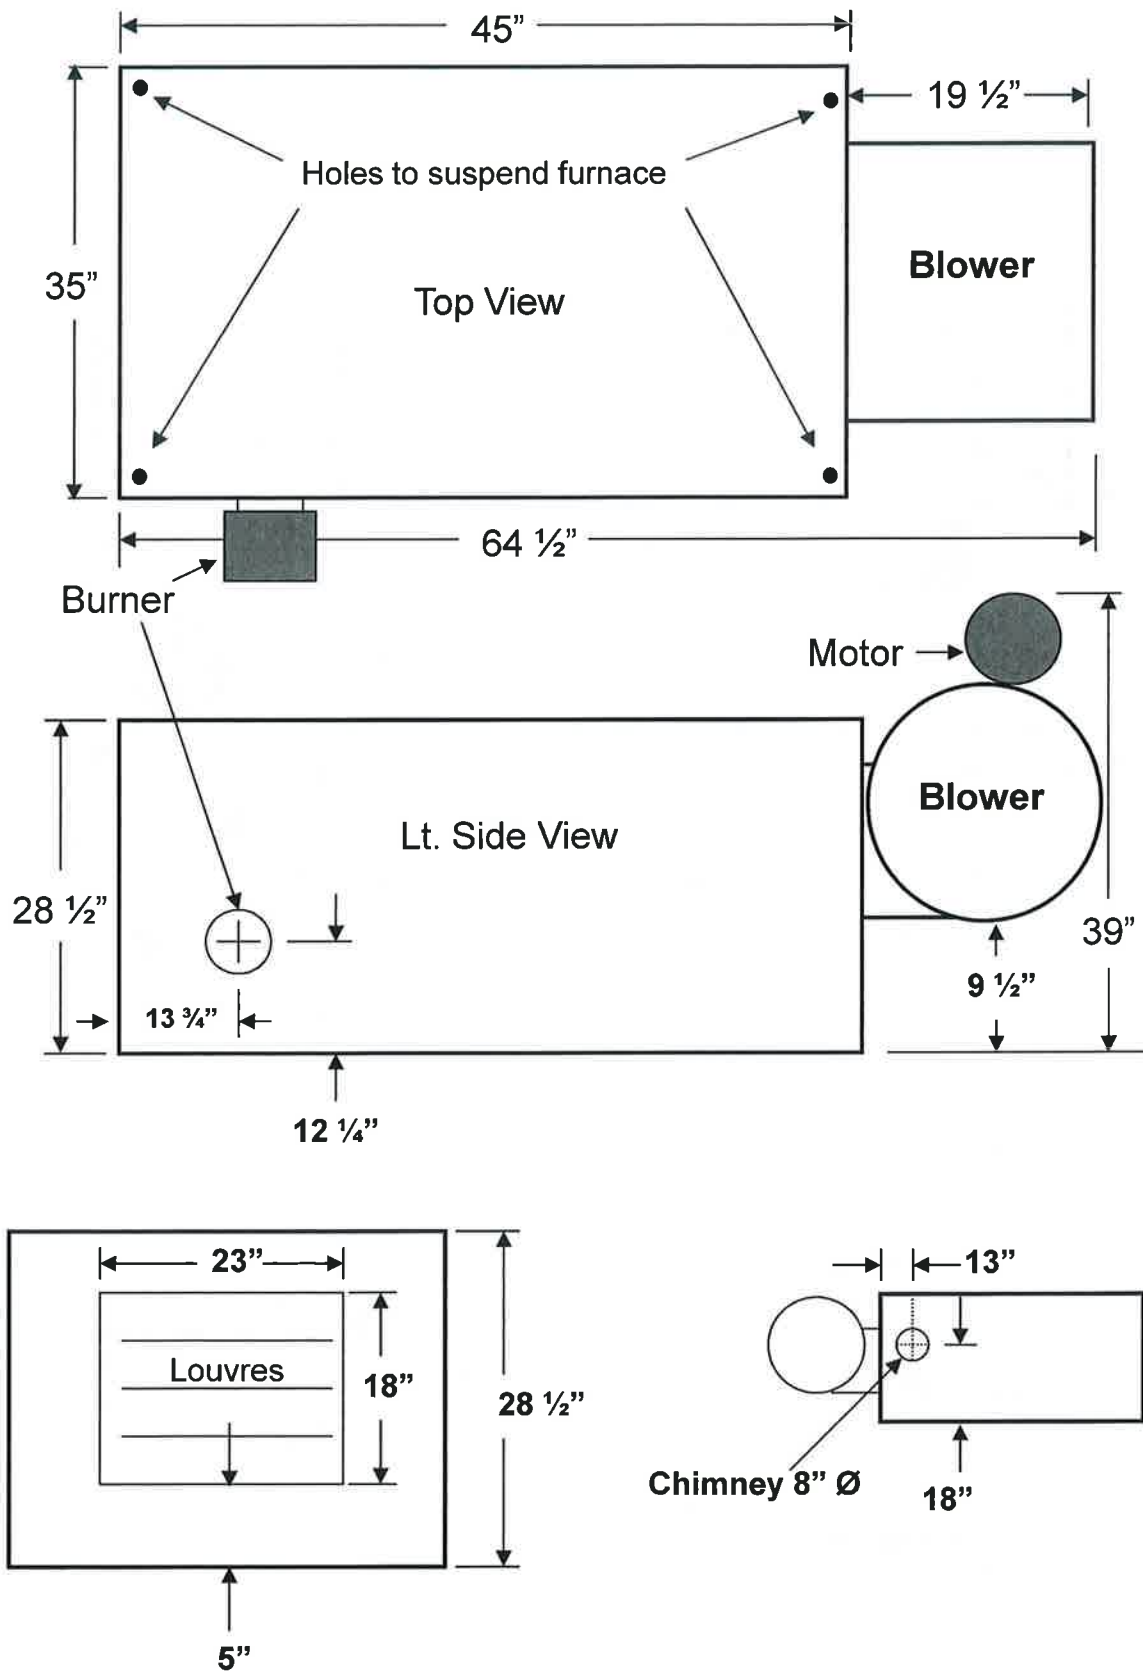

Figure 1
- Dimensional view of HW 150 (measurements)	Figure 1